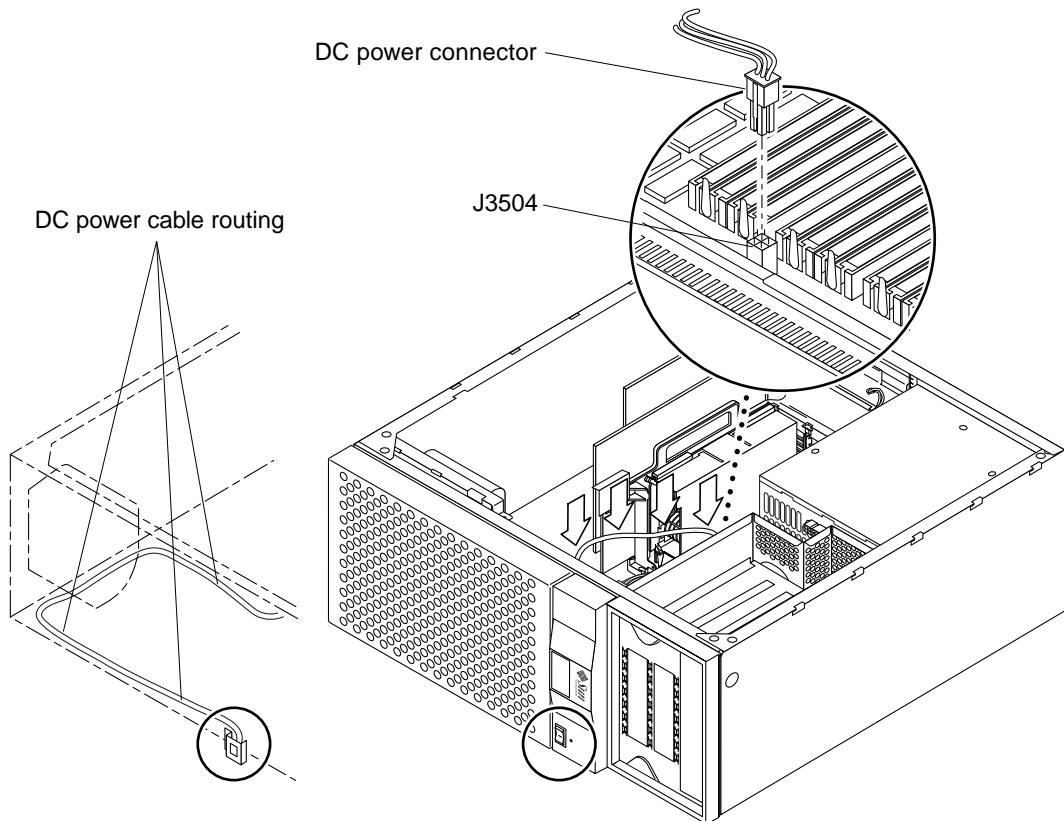

FIGURE 8-18 DC Switch Assembly Cable Routing
- 9. Disconnect the DC switch assembly power connector from motherboard connector J3504 (FIGURE 8-18).**
- b. Feed the DC switch assembly power cable through the chassis front (FIGURE 8-18).
3. Route the DC power cable along the chassis front and side. Secure the power cable in place using the cable routing clips (FIGURE 8-18).
4. Connect the DC switch assembly power connector to motherboard connector J3504 (FIGURE 8-18).